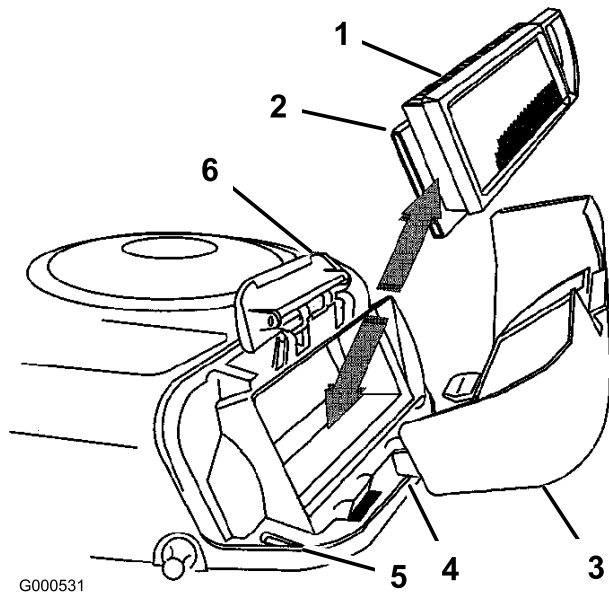

Figure 31
5. Carefully slide the paper element and foam element from the blower housing (Figure 31).
2. Align the tabs on the air cleaner cover with the slots of the blower housing (Figure 31). Hook the handle onto the cover and press down on the handle to lock the cover in place.